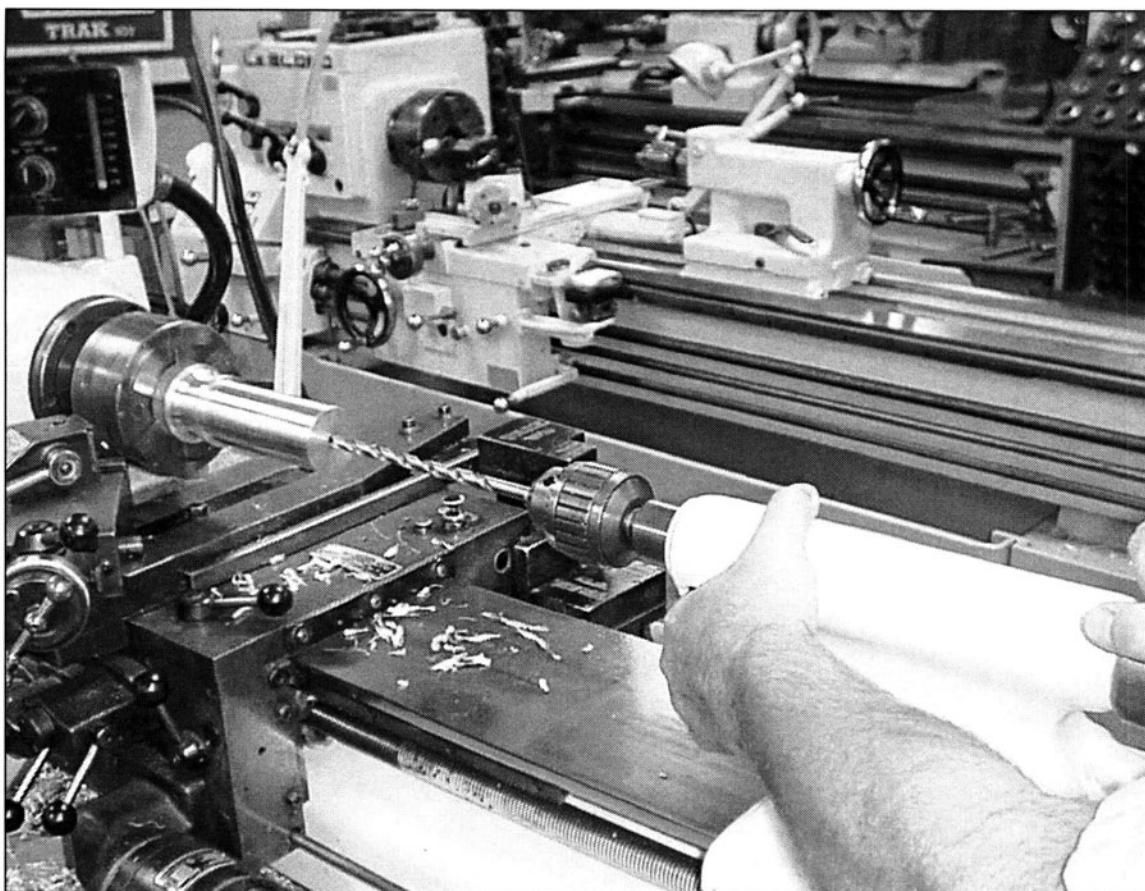

FIGURE 1-12 A deep hole can be drilled with a conventional lathe by sliding the tailstock.
34. Drill deep holes in a conventional lathe quickly by sliding the tailstock. (See Fig. 1-12)